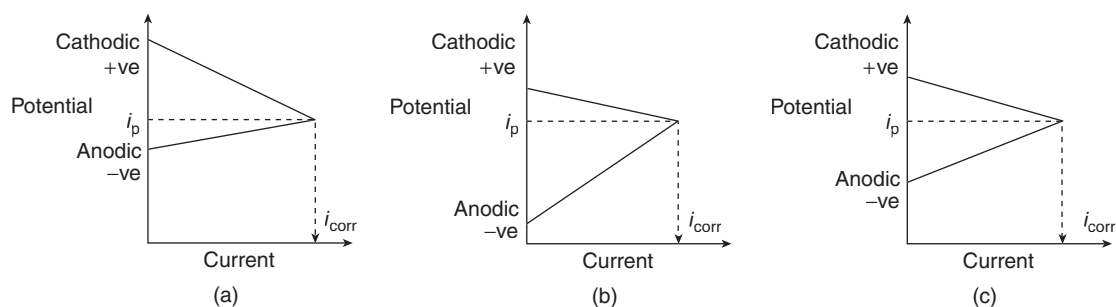

Figure 40 Polarization curves: (a) cathodic control, (b) anodic control and (c) mixed control.
4. **Polarization of electrodes:** Polarization is defined as the departure of electrode potentials from their equilibrium values, that is, from the open-circuit potentials causing a decrease in the current density. Polarization at the electrodes is due to concentration changes in the electrode region. It causes the potential of the cathode to become more anodic and that of anode to become more cathodic. The anodic and cathodic reactions must go in-step with one another if corrosion is to be sustained. The overall rate of electrochemical corrosion may be principally governed either by the anodic or by cathodic reaction rate. For metals such as Fe and Zn in aqueous solution, the rate of the cathodic reaction is the rate-determining step and the reaction is said to be under cathodic control (cathode polarization) in which corrosion current is under cathodic control. If the anodic reaction is the rate determining step, then the rate of corrosion is controlled by anodic polarization. Figure 40 shows the polarization curves for corrosion processes proceeding by (a) cathodic control, (b) anodic control and (c) mixed control.